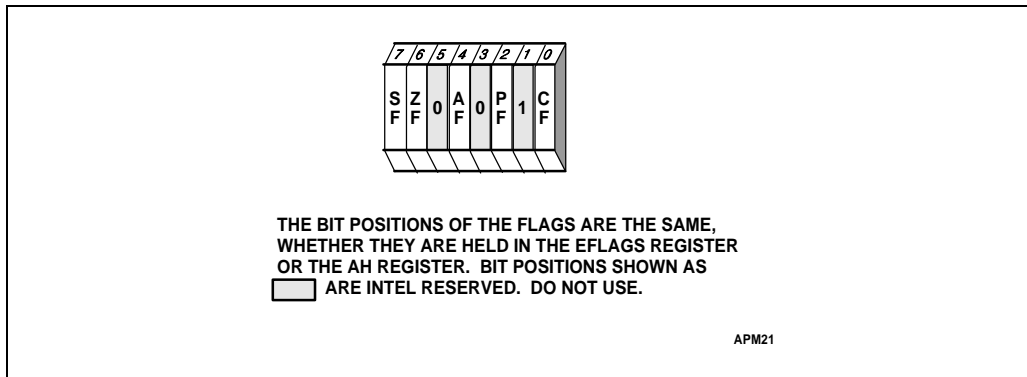

Figure 4-20. Low Byte of EFLAGS Register
**LAHF (Load AH from Flags)** copies the SF, ZF, AF, PF, and CF flags to the AH register bits 7, 6, 4, 2, and 0, respectively (see Figure 4-20). The contents of the remaining bits 5, 3, and 1 are left undefined. The contents of the EFLAGS register remain unchanged.
**SAHF (Store AH into Flags)** copies bits 7, 6, 4, 2, and 0 from the AH register into the SF, ZF, AF, PF, and CF flags, respectively (see Figure 4-20).